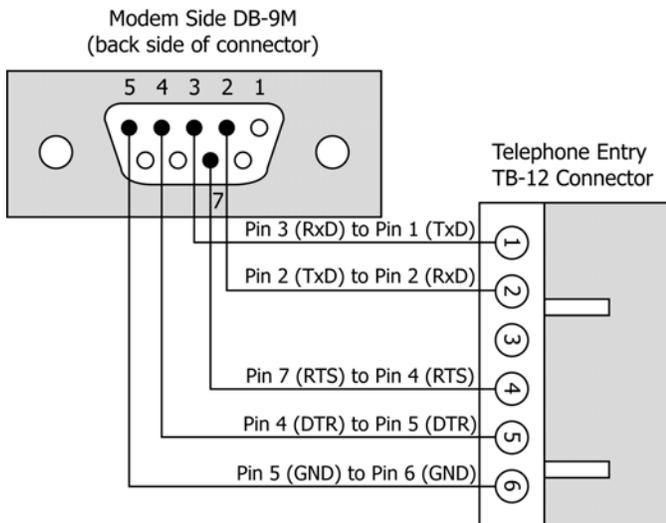

Figure 18: Modem/DB-9M to Telephone Entry/TB-12 Serial Port Connection
- If the modem has a female DB-9 connector, you must create a cable as shown in Figure 18.